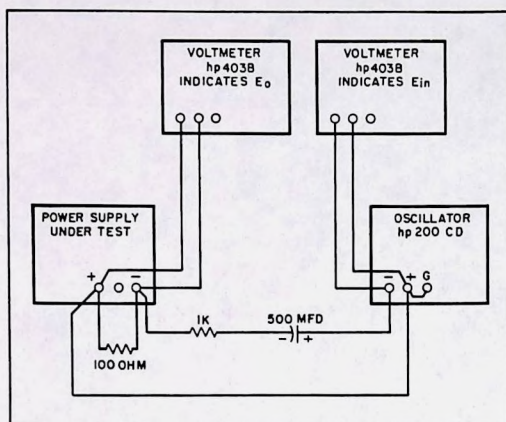

Figure 5-6. Output Impedance, Test Setup
- a. Connect test setup shown in Figure 5-6.